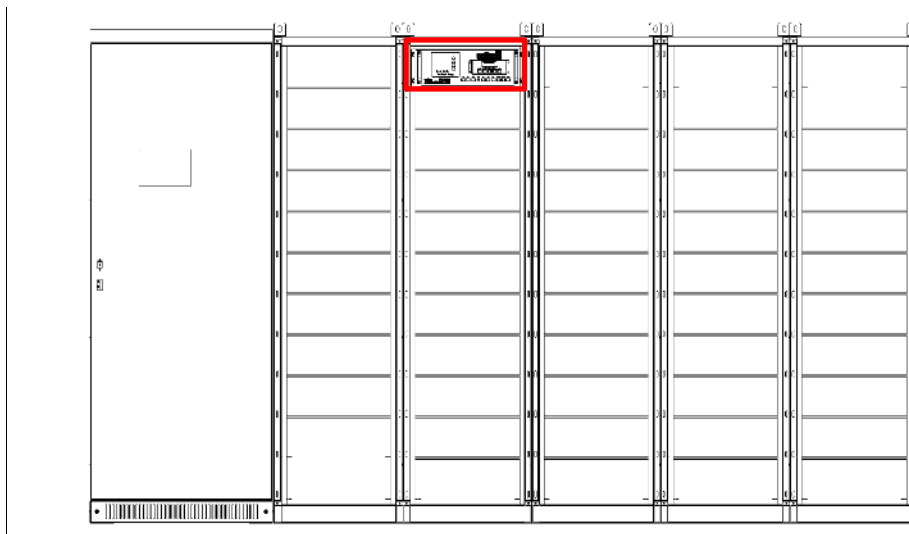

Figure 4.8 TOP BMU box installation
- a. Put the TOP BMU box on the top of the second rack as Figure 4.8 shows.